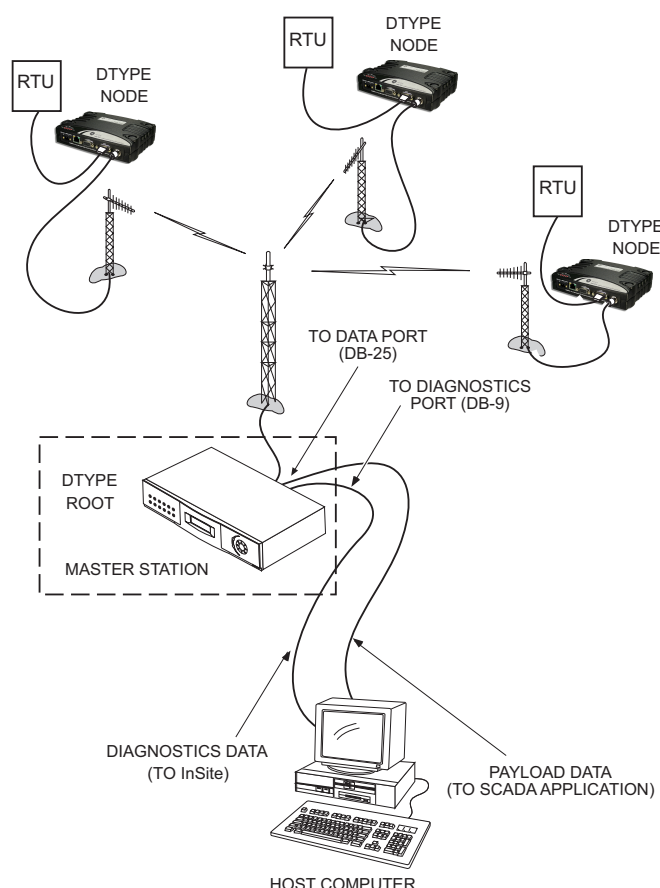

Figure 19. Network-Wide Remote Diagnostics Setup
Diagnostics data from a remote radio can be obtained by connecting a laptop or personal computer running compatible NMS software, such as Element Manager or InSite, to any radio in the network. Figure 19 shows a sample arrangement for performing network-wide remote diagnostics.
6. Connect a PC running the management software to the root radio, or to one of the nodes, using the radio's COM1 port. This PC can also be the PC used to collect payload data, as shown in Figure 19.